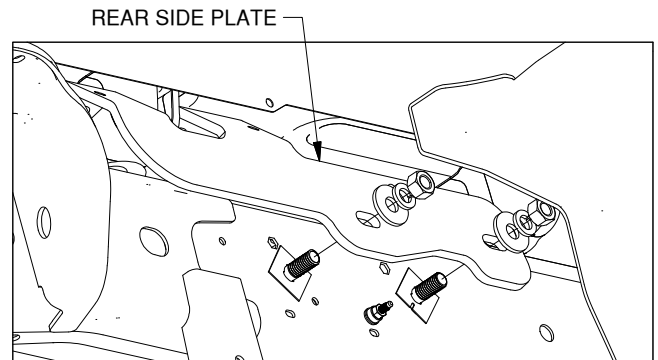

Figure B4: View looking at driver side frame.
5. **Install the rear side plates.** Locate the two rear side plates, four 1/2" flat washers, lock washers, and nuts. The rear side plates will install so that the two flanges on the top of the side plate will be on either side of the bed cross member directly behind the axle. Loosen or detach wiring connections as needed so the side plate can pass under the wiring. The grounding nut and connector will also need to be temporarily removed until side plate is secured. Pass the flanges over the frame and around the cross member while guiding the rear side plate holes over the carriage bolts, as shown in Figure B4. Attach the rear side plates with 1/2" flat washers, lock washers and nuts and hand tighten. Re-secure wiring components.